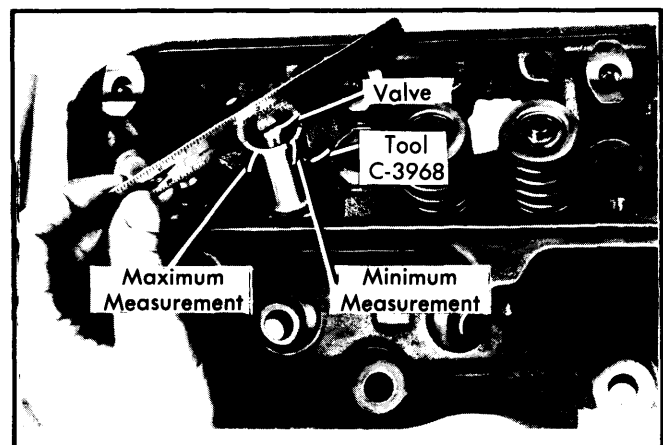

Fig. 5 Measuring Valve Stem Length
**Installation** — 1) Coat valve stems with lubricant and position in cylinder head. If valve or seats have been reground, check valve stem height using gauge C-3968. If valve is too long, grind material off valve stem tip until length is within limits. See Fig. 5.